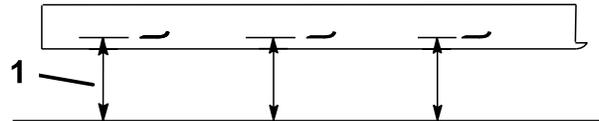

Figure 55
2. Measure from a level surface to the cutting edge, position A, of the blades (Figure 55).